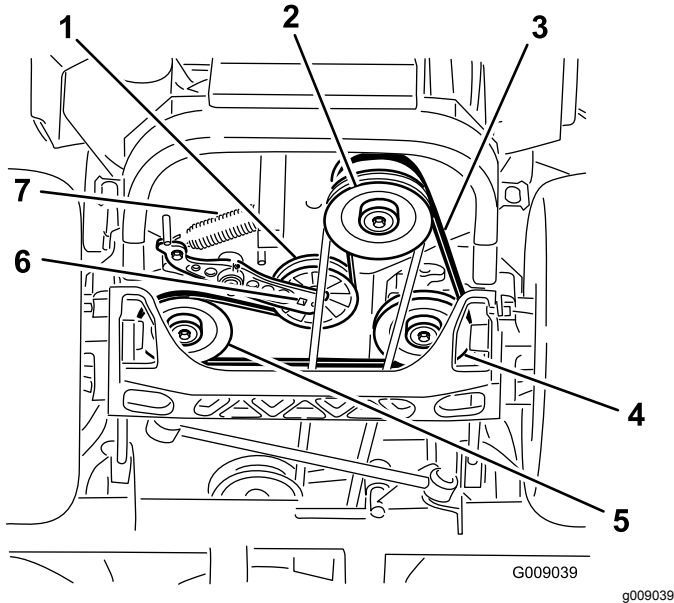

Figure 86
4. Raise the machine and support it with jack stands (Figure 86).
5. Use a ratchet in the square hole in the idler arm to remove the idler spring (Figure 86).
6. Unhook the idler spring from the frame (Figure 86).
9. Using a ratchet in the square hole in the idler arm, install the idler spring to the frame (Figure 86).